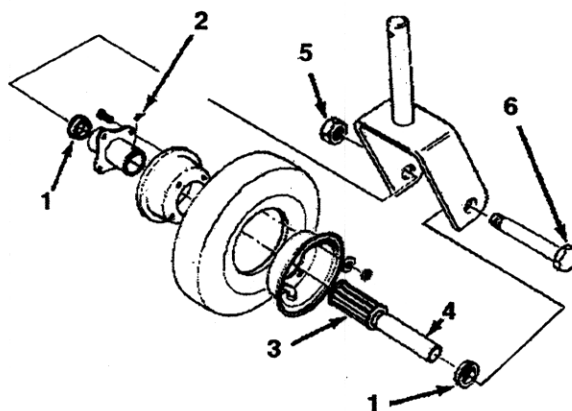

Figure 4
1. Remove the locknut from capscrew holding the castor wheel assembly between the castor fork (Fig. 4). Grasp the castor wheel and slide the capscrew from the fork.
Note: Account for the two bearing retainers (Fig. 4).
2. Tip the wheel to the side and allow the roller bearing and spanner bushing to fall out (Fig. 4).
- Pump more grease through the grease fitting on the wheel (Fig. 4) until the bearing is greased thoroughly.